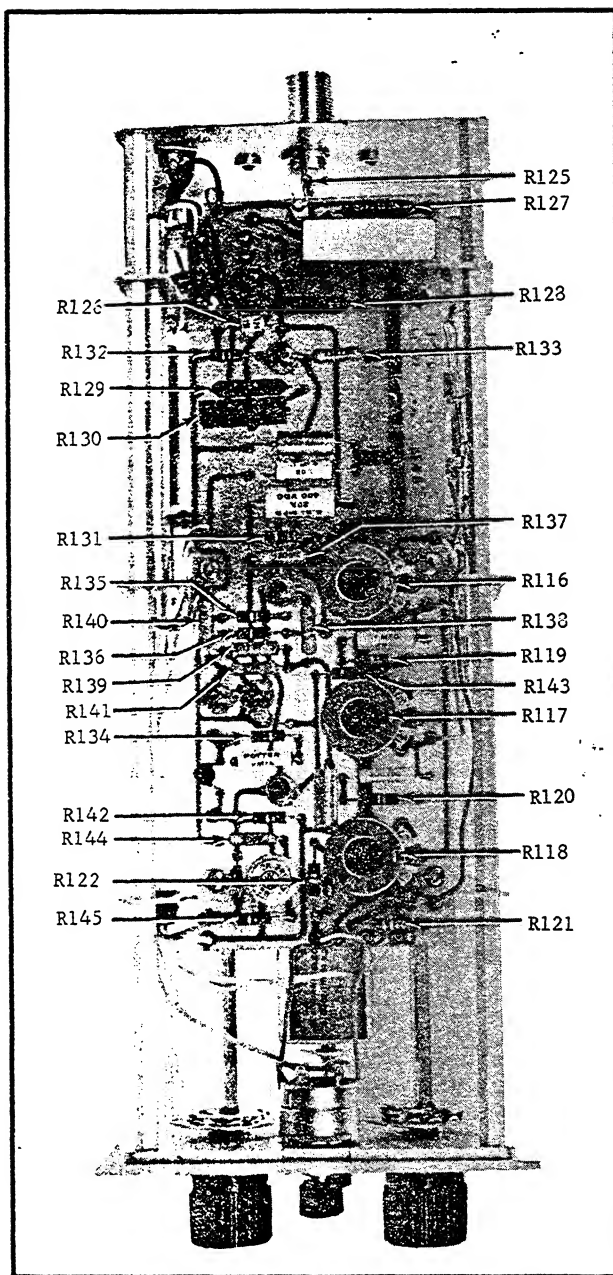
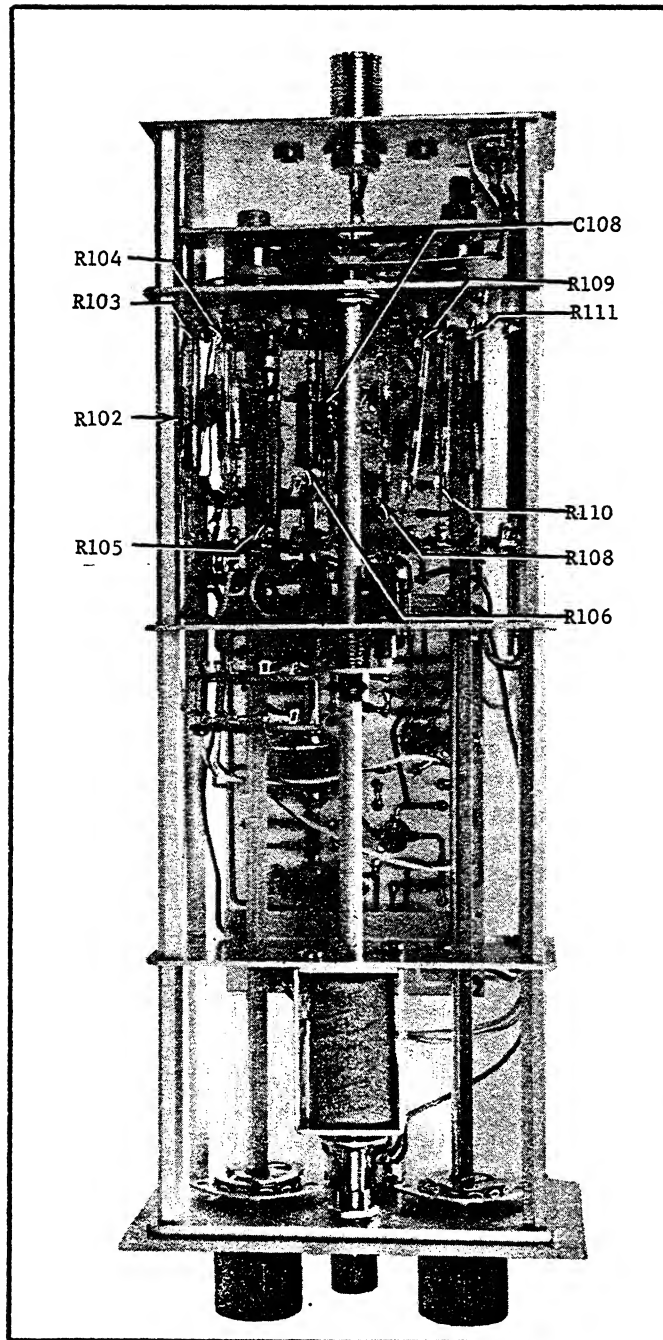

FIGURE 22. Resistors of Model 4170 Input Head.
FIGURE 24. Components on Model 4170 Input Head (Side Opposite PC-66).
3. Adjust potentiometer R118 (Figure 22) for minimum rise time without overshoot. Typical traces are shown in Figure 17. Observe the trace for the 10^{-11} and 10^{-12} range. Adjust potentiometers R117 and R116, respectively, if necessary. The 10^{-9} ampere range is adjusted for optimum rise time by sliding the brass band around the 10^9 high-megohm resistor, R111 (Figure 24) along the length of the unit.